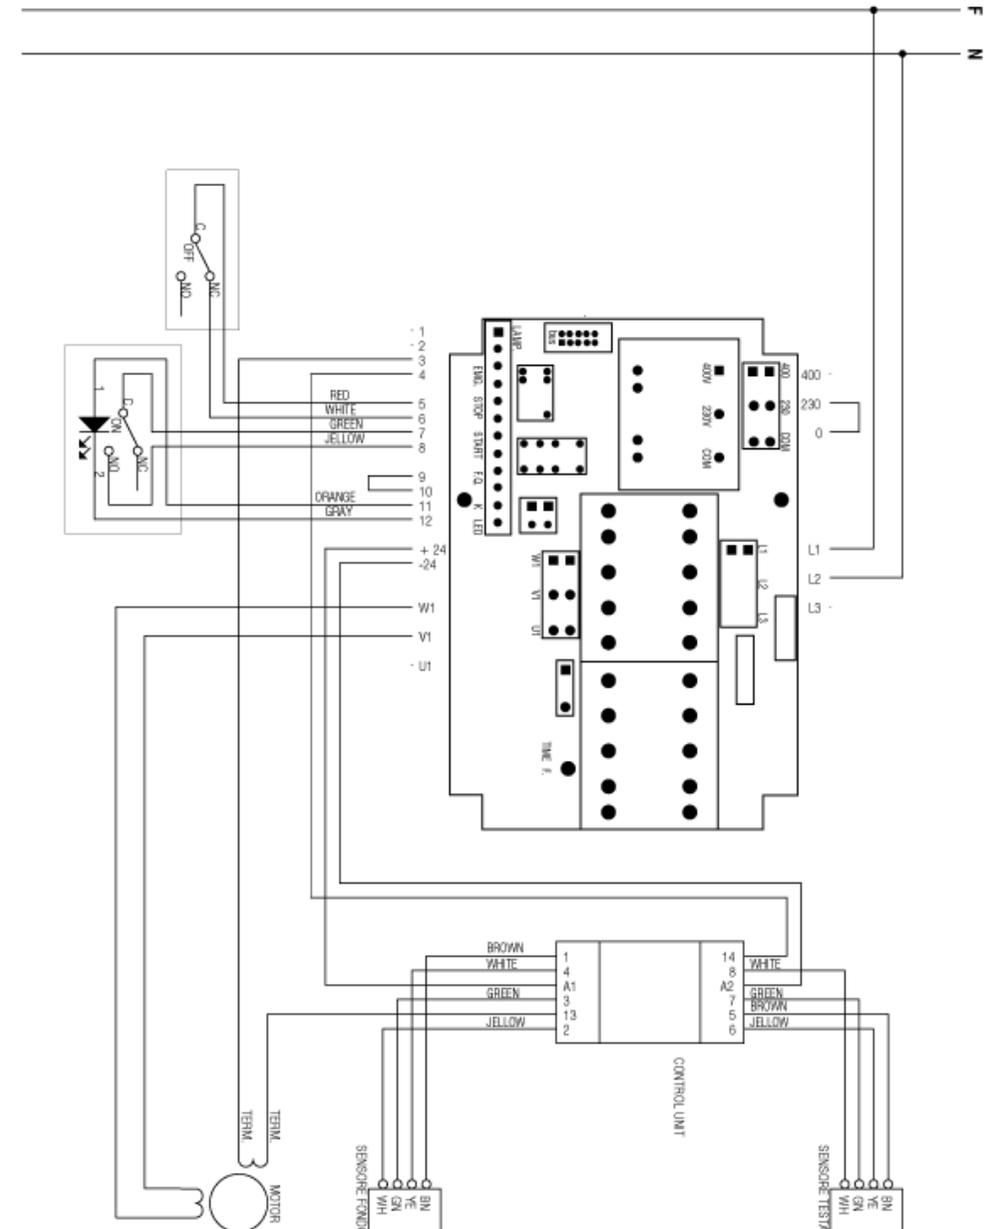

Fig.2.6.2
**2.5.2 - Single-phase wiring diagram at 230V (Fig. 2.6.2)**